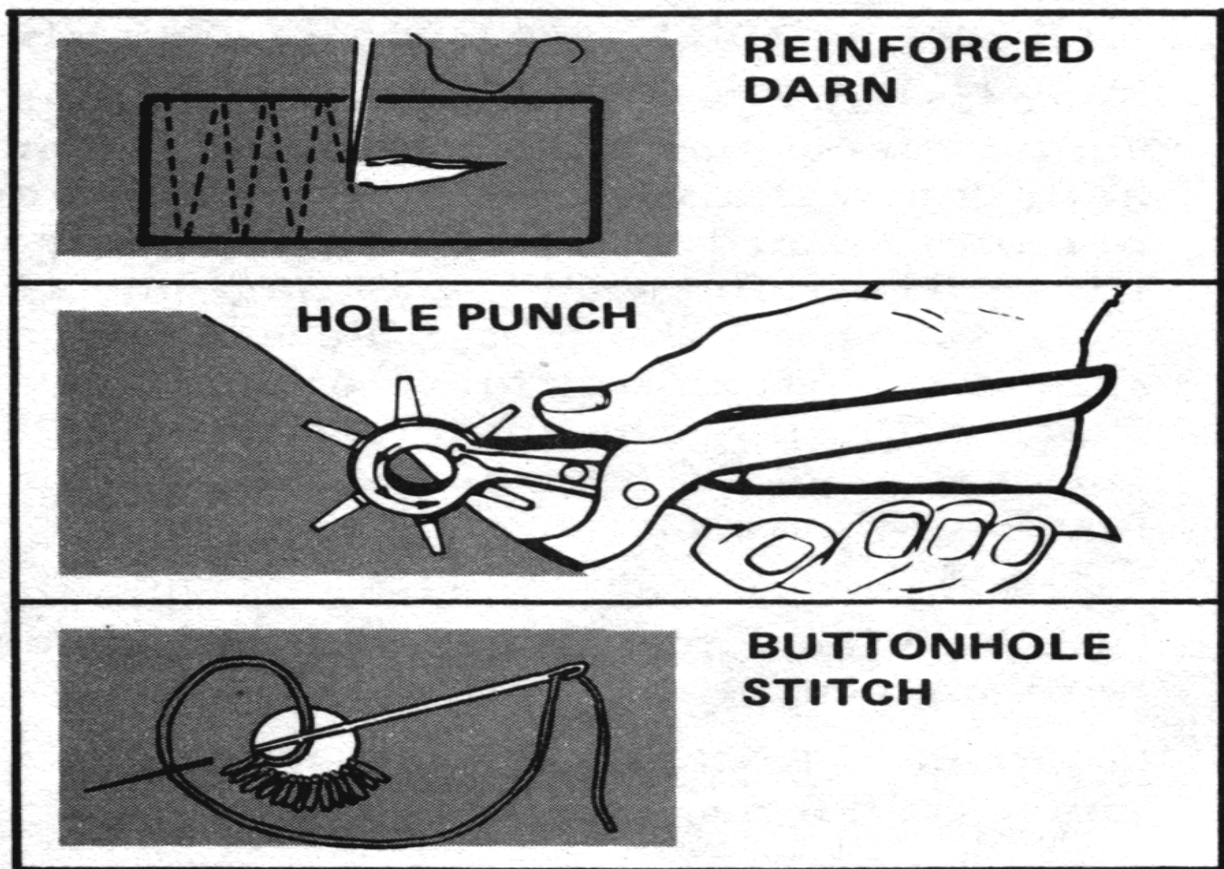

Figure 4-16. Repairing a stitched eyelet
a. **Repairing Stitched Eyelets.** To repair stitched eyelets (Figure 4-16)--
- (1) Cut and remove all the buttonhole stitches around the eyelet. Clean away all pieces of thread.
- (2) Close the hole with a reinforced darn.
- (3) Use the appropriate punch on a hole punch to make a new hole for the eyelet.
- (4) Sew buttonhole stitches around the raw edges of the hole.